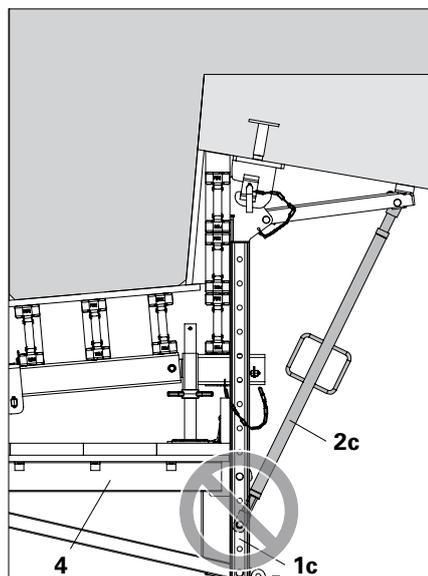

Fig. A4.03c
- Never attach the Kicker AV 140 (2c) between the fixing points of the Platform Cantilever Beam VGK 170 (4). (Fig. A4.03c)